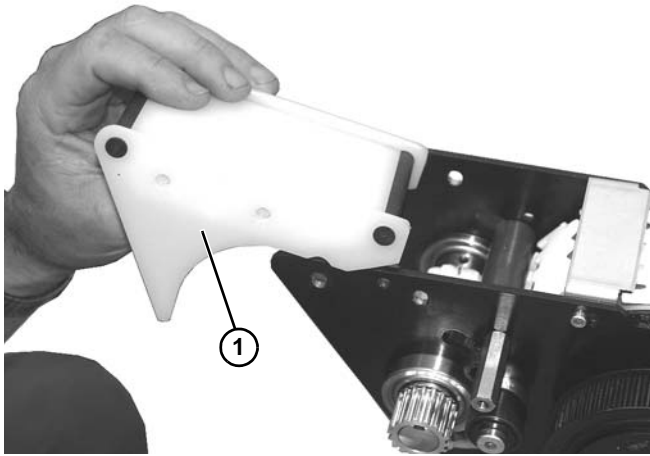

Figure 131
10. Remove wear bar assembly (**Figure 131, item 1**) from power transfer.